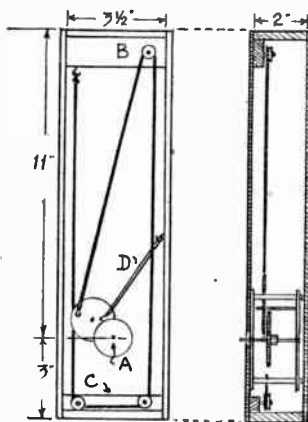

Fig. 1
To tension the string, a rubber band, or better still, a helical spring, is hooked to the spring wheel, opposite the string, and is then stretched, as at (D) to a screw hook, driven in the side of the case. A study of the interior shown in Fig. 1 will make the above clear. A careful adjustment of both string and spring should be made, until a pressure of the finger against the string makes the central spindle twist a little, and resume its former position when the pressure is released. The minute hand of the clock is pushed on the spindle to act as the pointer of the instrument.
Fig. 1 shows a view of the interior works and a side section. The front and back of the case can be made of $\frac{1}{8}$ in. fretwood, the sides of slightly thicker stuff, say, $\frac{1}{2}$ in. wood. Both back and front are cut to the same dimensions, and in the front only, at centre (A), a hole, $\frac{3}{8}$ in., is bored through to allow the spindle carrying the pointer to pass. In the side pieces, three holes, 1 in. diameter, are bored through each to let air pass to the inside. These should be covered on the inside with fine porous material, like muslin for instance, to exclude dust.
top and bottom of the case, inside, seen in Fig. 1, at (B) and (C) should be glued in. Make these of the right thickness of wood to bring the pulleys in line with the spring wheel of the works.